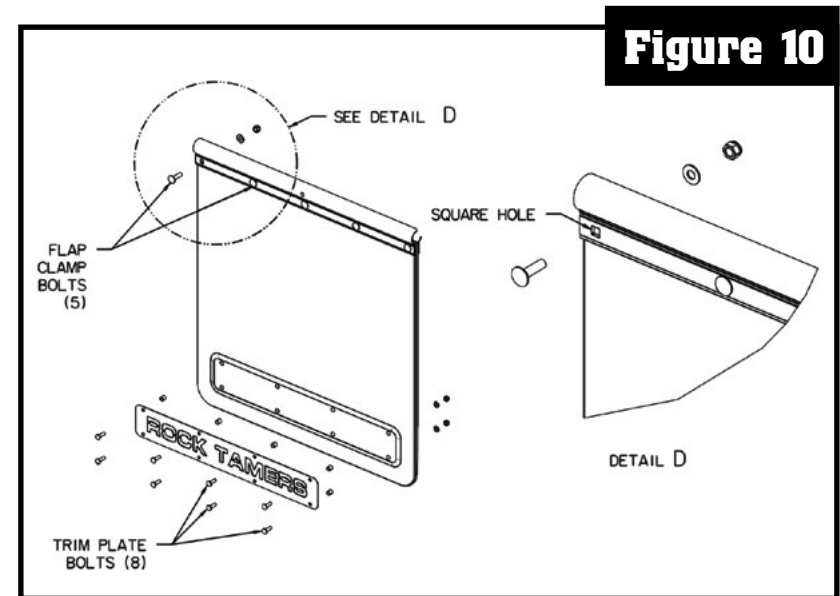

Figure 10
Insert the five M8 FLAP CLAMP BOLTS through the square holes. Loosely attach the M8 FLAT WASHER and M8 NYLON INSERT HEX NUT to the back as shown. (Do not tighten yet.) **Figure 10.**
- Assemble TRIM PLATES. Insert M6 TRIM PLATE SPACERS into holes in raised bottom portion of MUDFLAP. Attach the ROCK TAMERS TRIM PLATE with the eight M6 TRIM PLATE BOLTS (Locking STAR PIN™ [STAR PIN™ wrench included]), M6 FLAT WASHERS, and M6 NYLON INSERT HEX NUTS as shown in **Figure 10.** (20 in-lbs torque [10 mm socket or wrench]).
- Tighten the five M8 FLAP CLAMP BOLTS on each of the FLAP CLAMPS. **Figure 10.** (30 in-lbs torque [13mm socket or wrench])